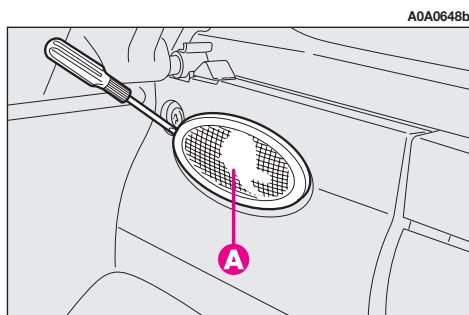

fig. 47
- Remove the light unit (**A-fig. 47**) levering in the point shown by the arrow;